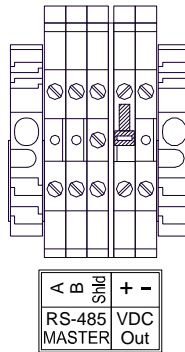

Figure 15 N4X RS-485 Master Port Connections
6. Connect the external Modbus™ sensors at the RS-485 connections labeled **RS-485 Master** and ‘A’, ‘B’, and ‘Shld’ (Figure 15).